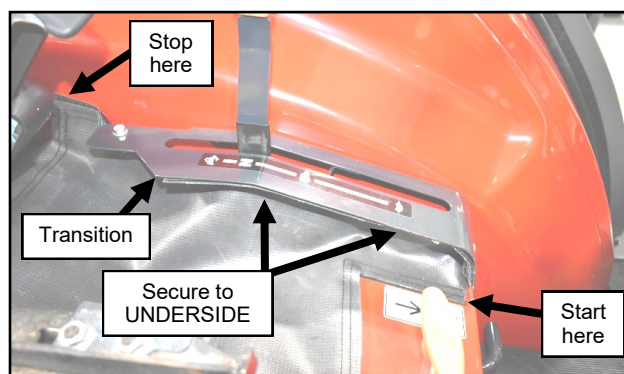

Fig. 21.4 (Secure Front Left Corner Of Under Seat Filler)
- 21.4 At the left front corner of the filler, line up the inner left edge between the Diff. Lock decal and sheet metal edge and secure. See Figure 21.4. Curl the outer edge and secure it to the **UNDERSIDE** of the speed selector lever guard, lining it up edge to edge. At the back of the guard, transition the filler to the side of the fender.